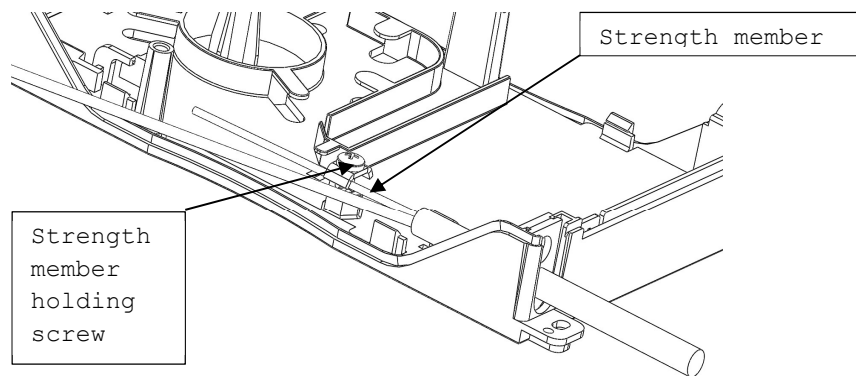

Fig. 15
3.2.2. Loosen the screw just enough to pass the cable strength member (Fig.15);